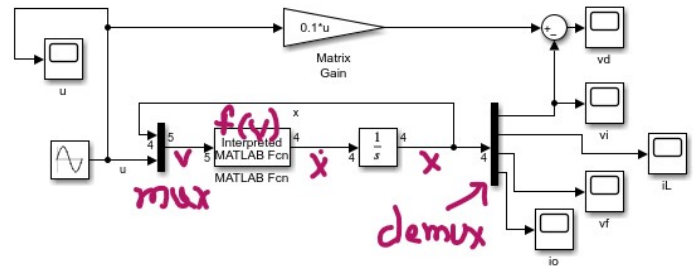

Figure 4: Simulation using the Interpreted Matlab Function block from the User-Defined Functions directory of the Simulink Library.
i. Fig. 4 shows an implementation using Matlab's *Interpreted Matlab Function* block. The specifics are as follows:
Table 3: Sample code structure for the user defined function in Fig. 4.